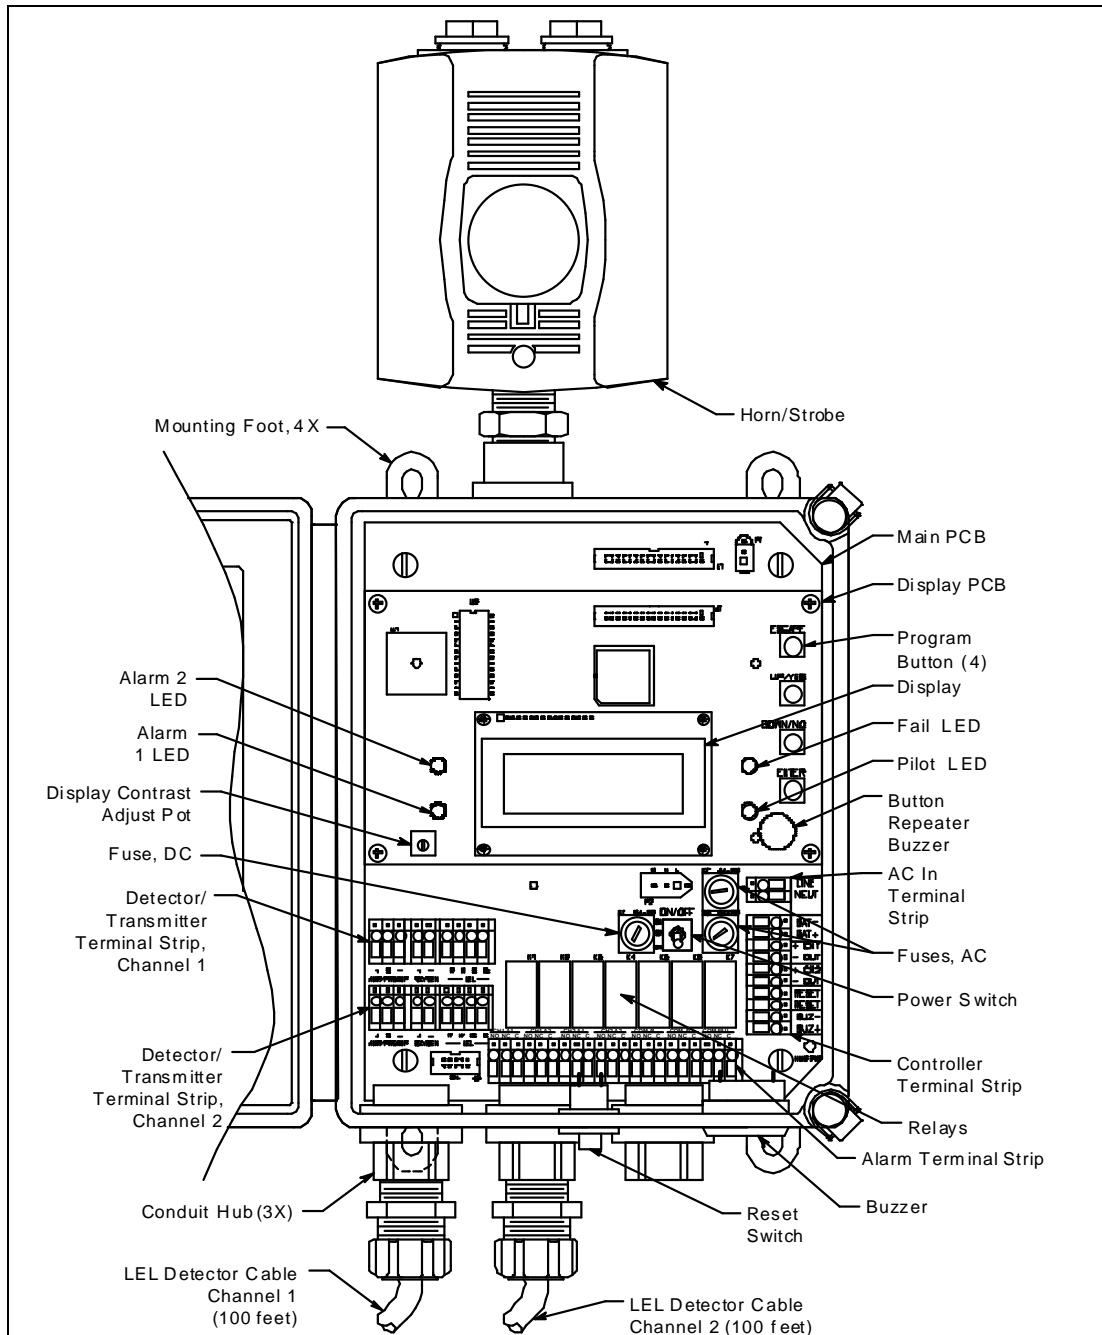

Figure 1. Beacon 200 Component Location
This section describes the internal components of the Beacon 200. See Figure 1 on page 9 for a view of the internal components.
- **Detector/Transmitter Terminal Strips.** Two detector/transmitter terminal strips are located near the bottom left corner of the main circuit board (see Figure 1). These two 9-point terminal strips facilitate wiring connections to the detectors. Only one detector head at a time may be wired per channel. The top terminal strip is for channel 1 and the bottom terminal strip is for channel 2. The LEL detectors are factory wired to these terminal strips.
- **Alarm Terminal Strip.** The alarm terminal strip is located along the bottom edge of the main circuit board (see Figure 1). This 21-point terminal strips facilitates wiring connections to external alarm devices (horn, strobe, etc.). Terminals are provided for individual channels as well as common alarm relay contacts. The horn/strobe is factory wired to this terminal strip.
- **Controller Terminal Strip.** The 10-point controller terminal strip is near the lower right edge of the main circuit board (see Figure 1). The controller terminal strip facilitates various internal and external wiring connections. Table 3 lists the function of each terminal.
- **AC In Terminal Strip.** The AC In terminal strip is a 2-point terminal strip located above the controller terminal strip (see Figure 1). It facilitates wiring from the AC power source. Table 4 lists the function of each terminal.
- **Channel relays.** The four channel relays are above the alarm terminal strip (see Figure 1). These relays are dedicated to specific channels and alarm levels.
- **Common relays.** The three common relays, alarm 1, alarm 2, and fail, are to the left of the controller terminal strip (see Figure 1). These relays are common for both channels.
The power switch is located above the relays and to the left of the DC fuses (see Figure 1). The power switch turns the incoming AC power source on and off at the Beacon 200. When the switch is up, the power switch is on.